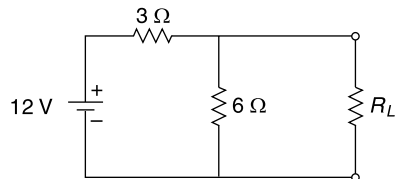

Fig. 4.203
42. For the electrical network shown in Fig. 4.203 find the value of load resistance R_L for which source will supply maximum power to the load. Find also the maximum power. [Ans: 8 W]